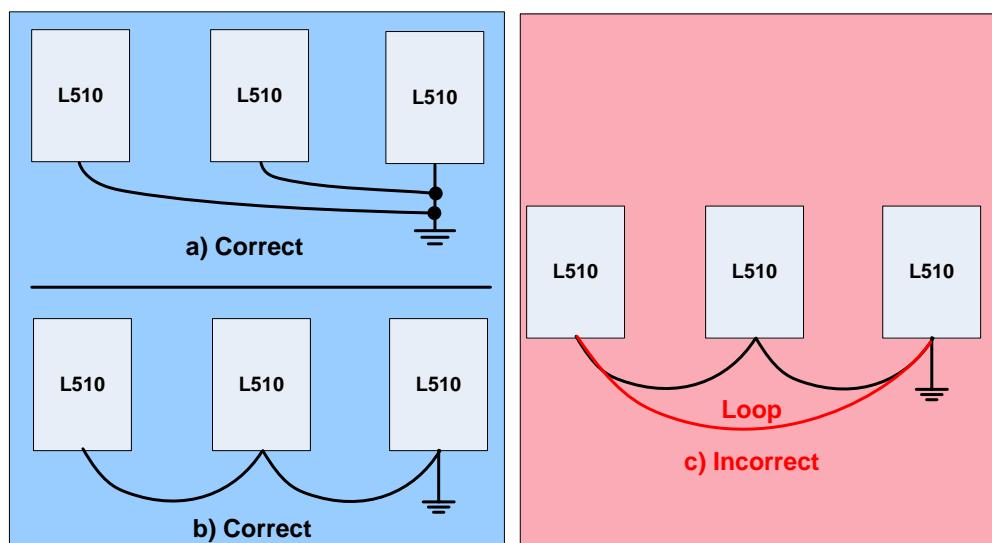

Fig. 3.10.1 Inverter Grounding
1. Connect the ground terminal (E) to ground having a resistance of less than 100Ω .
4. When using more than one inverter, be careful not to loop the ground wire, as shown below in Fig. 3.10.1.